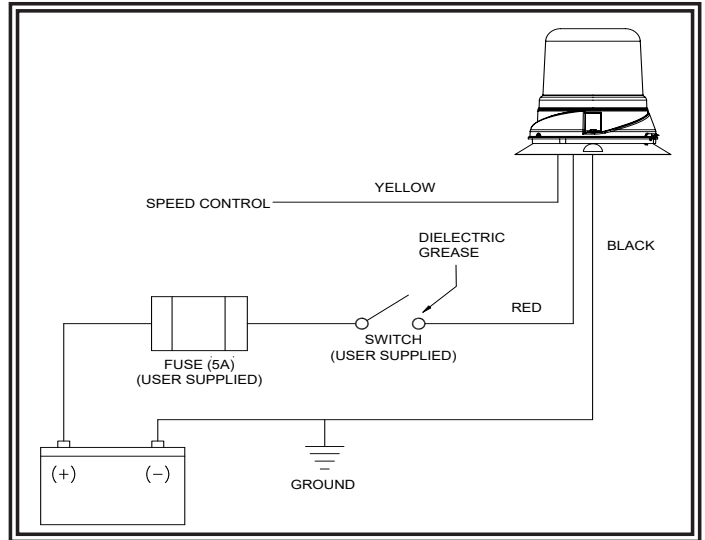

FIGURE 5
5. Connect the power wires as shown in the wiring section (see FIGURE 5).
The wiring for this configuration is as shown in FIGURE 5. All wiring should be a minimum of 18AWG. The positive line must have a 5 amp fuse, as shown. A switch may be used to control the on/off function. Route the ground wire directly back to negative battery terminal. Pack dielectric grease, such as Dow Corning 4, around each electric connection exposed to moisture or the ambient environment. For a 120 FPM rotation speed, connect only the red wire to (+)power and isolate the yellow wire. For a 75 FPM rotation speed wire the red and yellow wires together to (+)power.